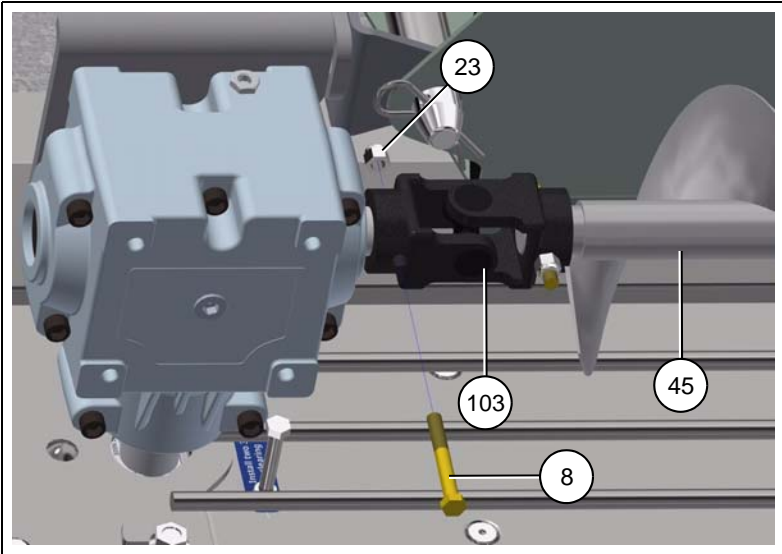

Figure 4Z
2. Install the sweep flight (45) onto gearbox universal joint (103) using 3/8" x 3" bolt (8) and 3/8" lock nut (23). (See Figure 4Z.)